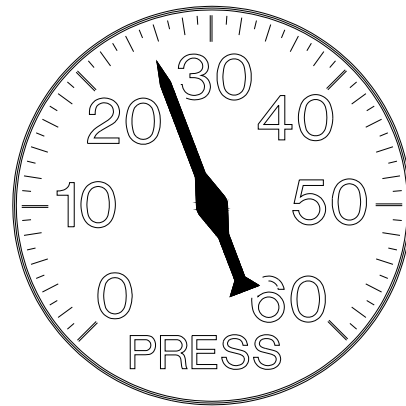

Figure 8
5. With the nozzle closed, a normal pressure reading is 25-28 pounds per square inch pressure. See Figure 8.